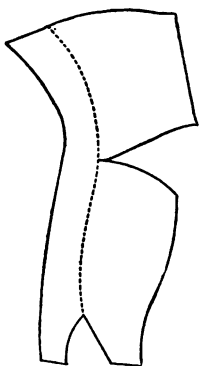
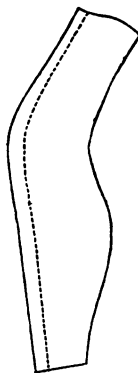

Fig. 30.
Fig. 31.
**Approved Patterns.**—Herewith we give a few of the most approved patterns for this class of work. Fig. 30 is a trenching or rounding pattern for the main portion of a gaiter leg. Fig. 31 represents the other portion.